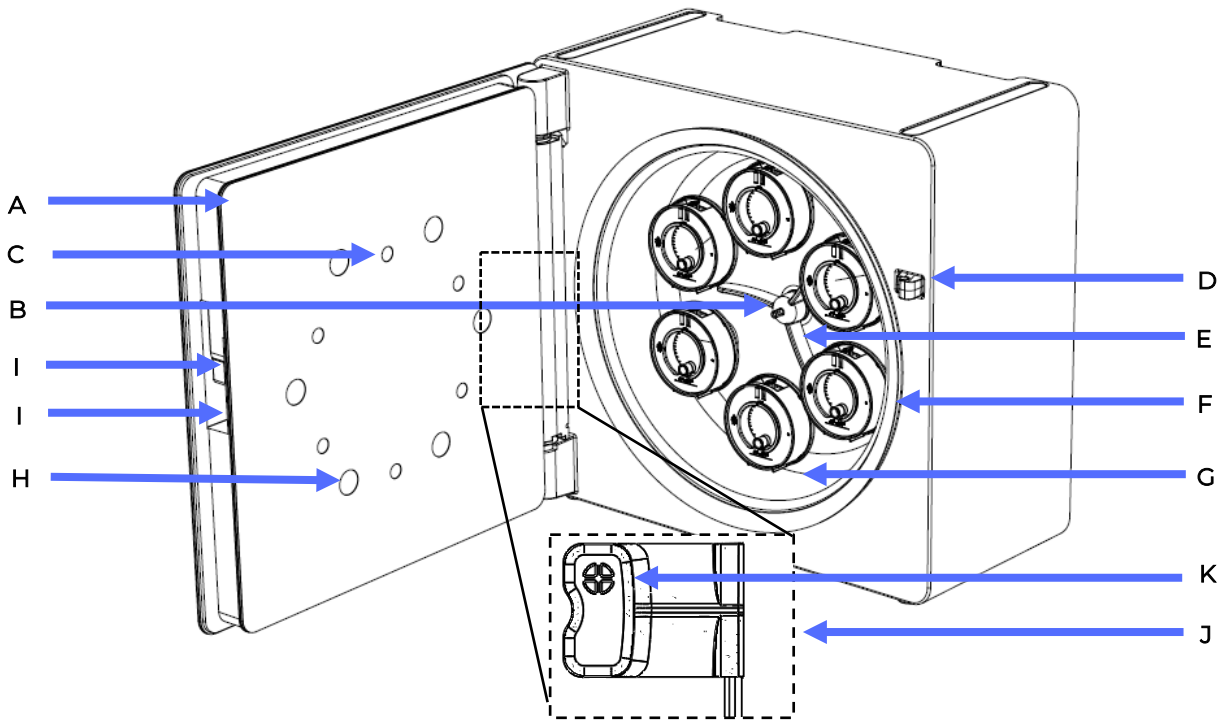

Figure 1
- Sensor for measuring the workspace internal atmosphere O₂ content (%) ('K' in figure 1)
Six 5-megapixel cameras (C in figure 1) are installed in the door, in line with the axles. Each monitors a ClinoReactor and their video output can be seen on the tablet.